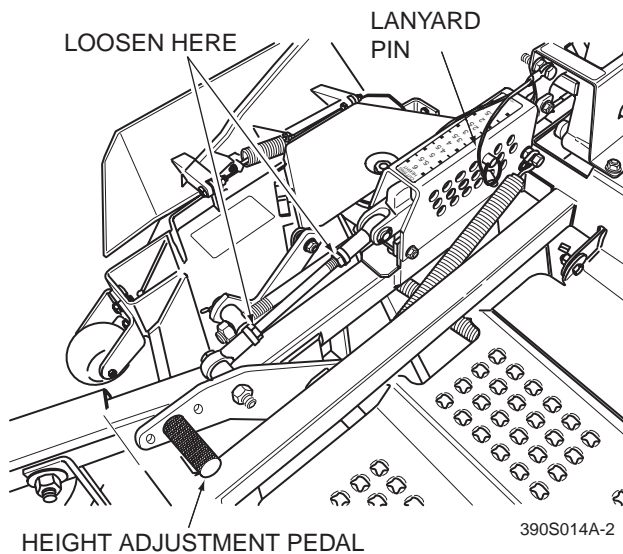
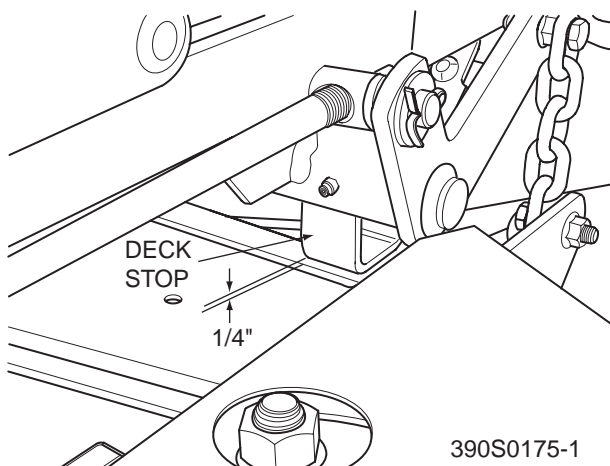

Figure 6-7 Cutter Deck Height Adjustment
Figure 6-8 Cutter Deck Stop
1. Place the cutter deck in the transport position. Loosen the jam nuts on both ends of the deck height control rod. (See Figure 6.7)
2. Turn the control rod (See Figure 6.7) until there is a 1/4" space between the rear deck stop and the top of the cutter deck. (See Figure 6.8). Tighten the jam nuts on the control rod.
4. Check the measurement from the floor to the cutter blade tip. If the measurement is not at 3", an adjustment can be made using the deck height control rod. (See Figure 6.7)